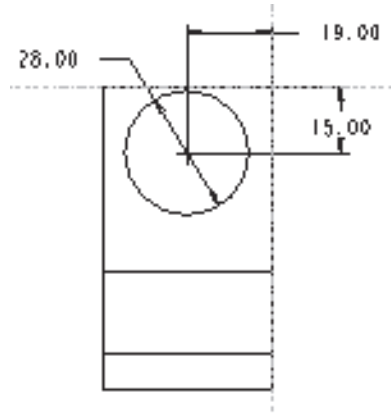

Figure 5-54 Sketch and dimensions for the second feature
4. Draw the sketch for the second feature and apply and modify the dimensions as shown in Figure 5-54.